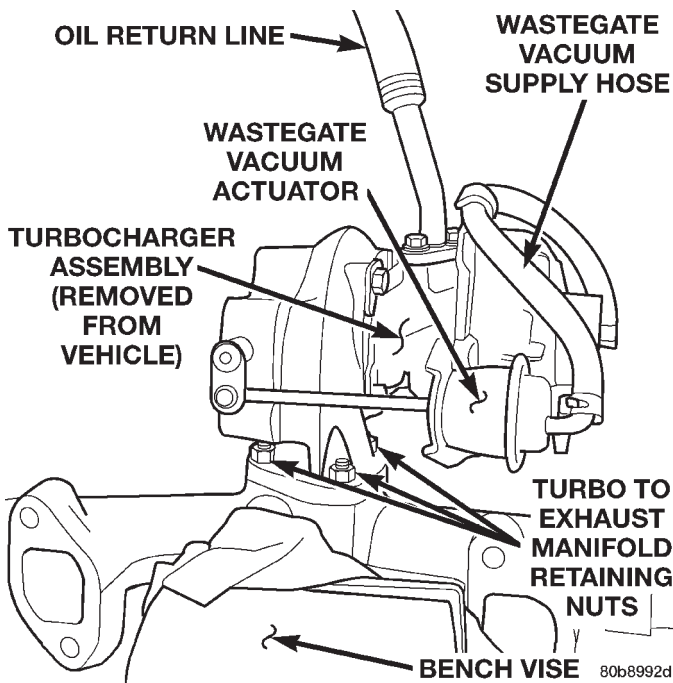

Fig. 19 Turbocharger / Exhaust Manifold Assembly
(1) Install the turbocharger on the exhaust manifold (Fig. 19). Torque nuts to 32 N·m (23 ft. lbs.).